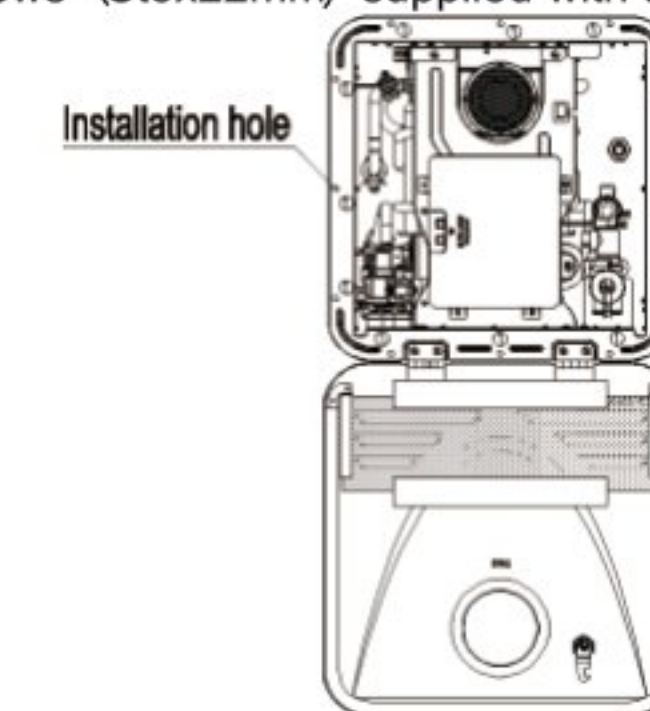

Figure 20
- i) After the water heater is confirmed to work properly, push the water heater into the opening and secure it with 12 screws (St5x22mm) supplied with the water heater on the RV-- see Figure 20